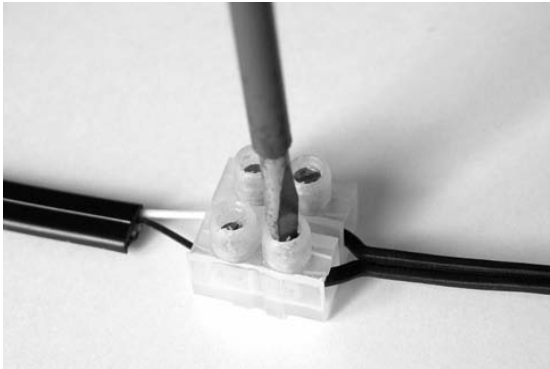

Figure 11-22. Attaching wires to the screw terminal
5. Screw all the wires under the screw terminals (see Figure 11-22). Folding the ends and tightening the insulating material under the screw provides some strain relief.